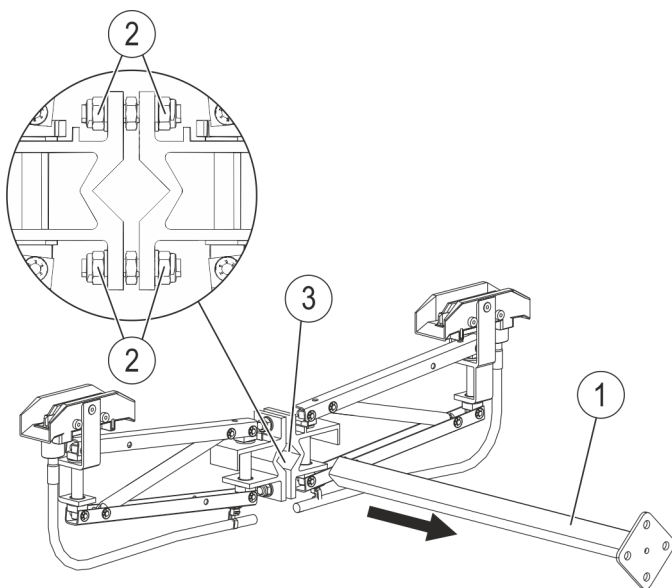

Fig. 122: Mount the towing arm
- Tension the towing arm (Pos. 1) in the middle support (square) (Pos. 3) of the current collector. The outer nuts M8 (Pos. 2) at the same time, gradually tighten alternately with an open-end SW13 wrench (torque for galvanized: **19 Nm**, torque for stainless steel: **13 Nm**) (see Fig. 122). Observe the tolerances and instructions provided above.